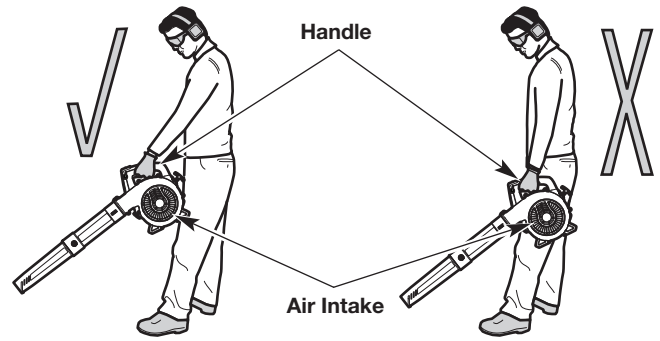

Fig. 9
- Stand in the operating position (Fig. 9). Stand up straight. Do not bend over.
- Hold the unit in front of, and away from, your body (Fig. 9).
**WARNING:** To prevent serious personal injury or damage to the unit, **DO NOT** hold the unit at your side (Fig. 9). The engine may be extremely hot. **DO NOT** block the air intake.